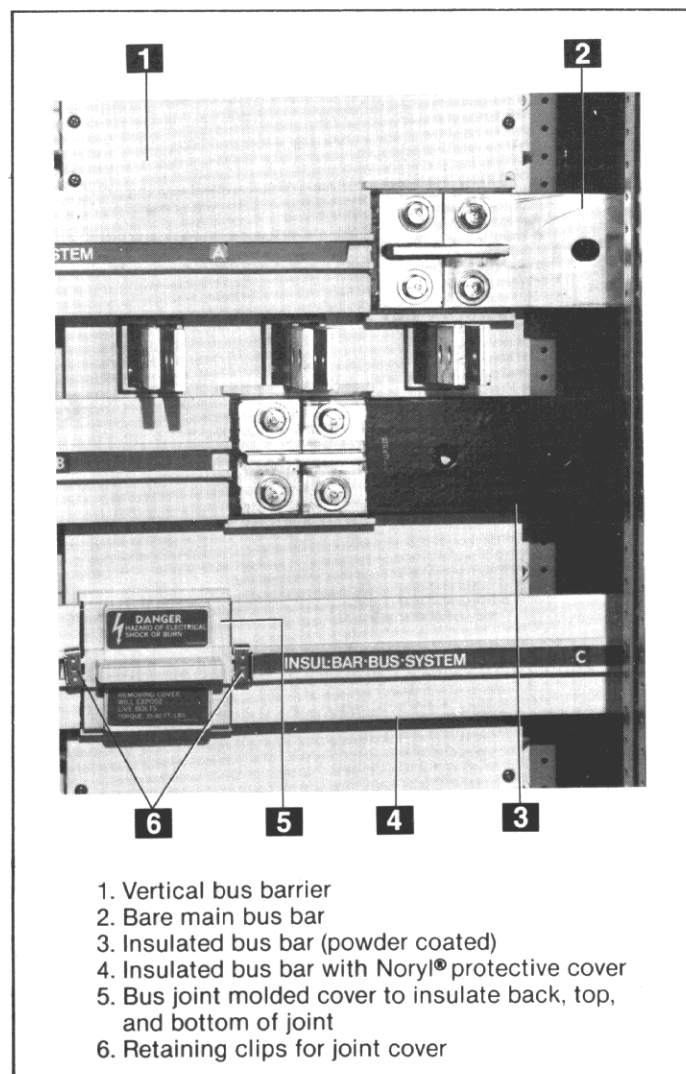

Fig. 3-27. Insul-bar horizontal bus insulation system
Figure 3-27 illustrates the various components comprising the insulation/isolation system for the horizontal main bus bars. The top bar (2), Fig. 3-27, on the right shows the aluminum bar prior to fluidized bed application of the powder coating. The middle bus bar (3) shows the aluminum bar with the fused epoxy insulation coating. The bottom bus bar (4) shows the insulation system complete with Noryl® protective cover and the joint cap held in place with captive spring clips.